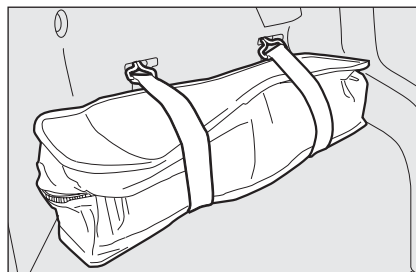

fig. 2
- ☐ open the rear swing doors the luggage compartment tailgate, take the tool bag **fig. 2** located on the left side of the luggage compartment releasing the flexible retainers and place it next to the wheel to be changed;